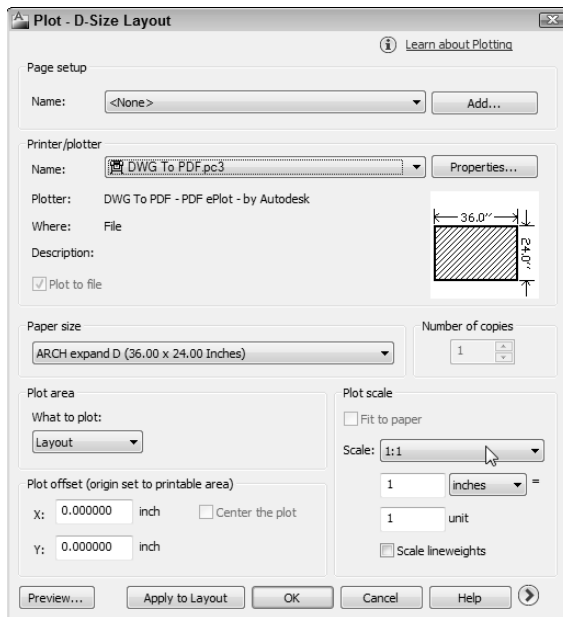

Figure 16-6:
The Plot dialog box appears with the name of the layout to be plotted displayed in the title bar. (In Figure 16-6, I'm plotting a layout named D-Size Layout.)
5. In the What to Plot drop-down list, choose Layout, as shown in Figure 16-6.
7. In the Plot Scale area, select 1:1 from the Scale drop-down list, as shown in Figure 16-6.
One of the big advantages of layouts is that you don't need to know anything about drawing scale in order to plot the drawing — hence the name *paper space*. Figure 16-6 shows the proper settings for plotting a layout.